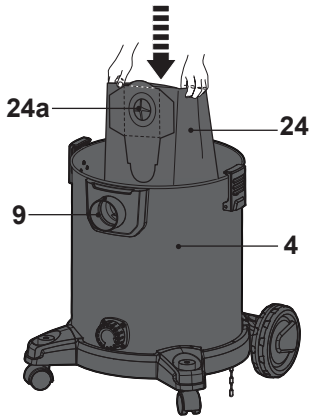

Fig. 7
- > Place the dust bag (24) into the tank (4). Ensure the dust bag opening (24a) is located on top.
- > Hold the side flaps of the dust bag opening (24a) and slide the dust bag opening (24a) onto the inner opening of the air inlet (9) (Fig. 7). Ensure the connection is properly sealed.